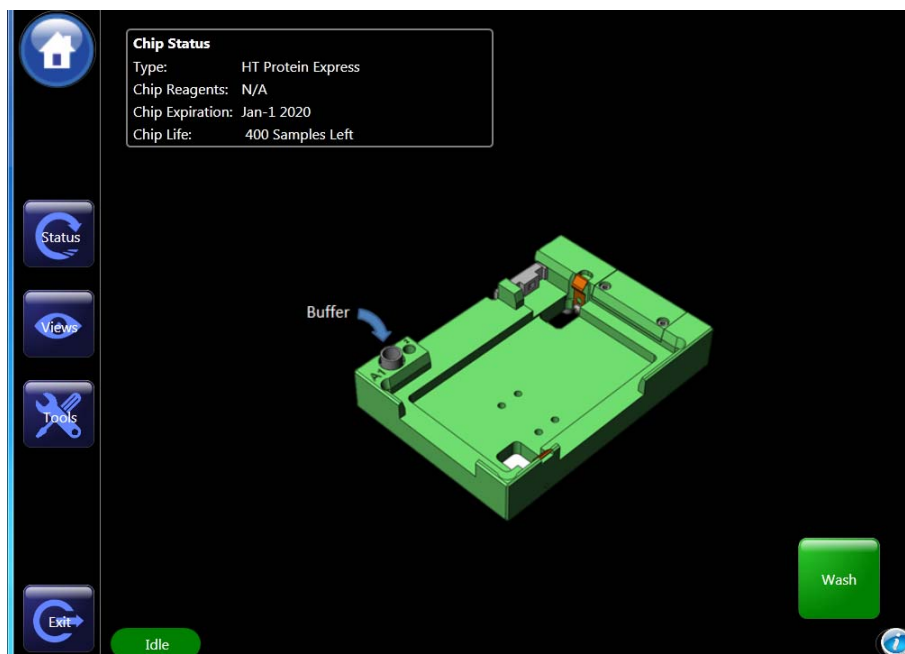

Figure 17. Wash Screen
- 7 Touch the *Wash* button on the Home screen. Then touch the *Wash* button on the Wash screen.(Figure 17).